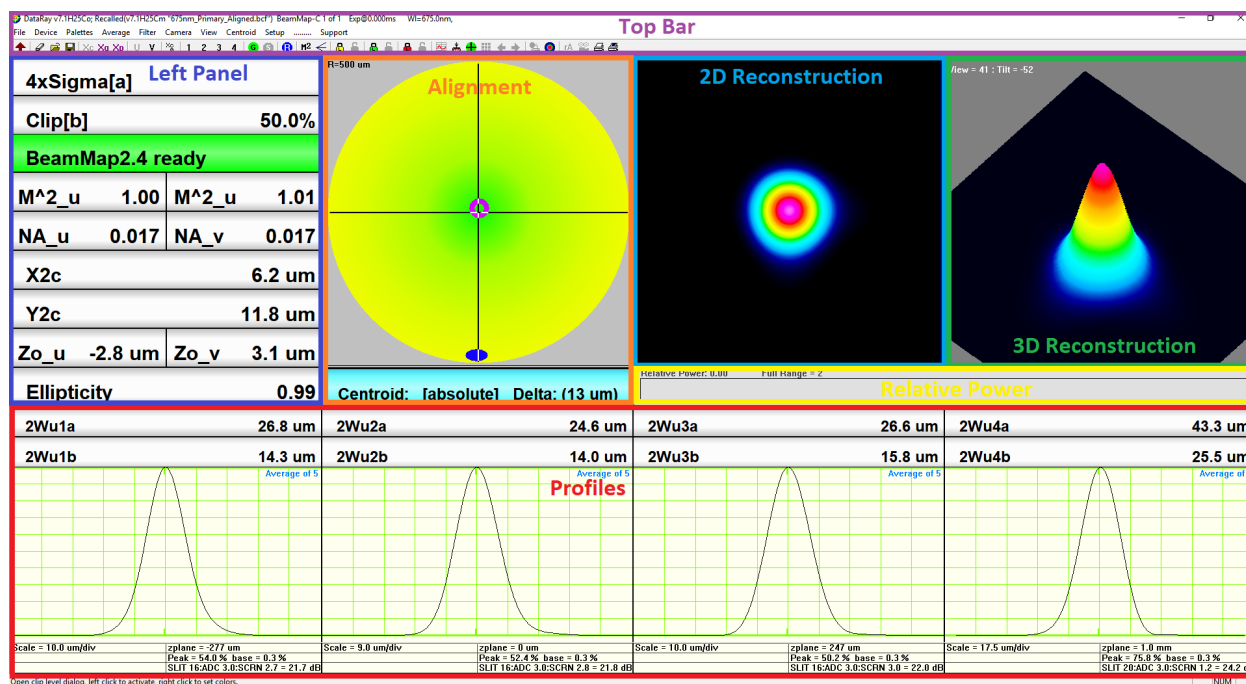

Fig. 3.2: BeamMap2 Software Panels
- The elliptical marker in the alignment panel tracks the focus position of the beam. This marker will move left/right to indicate whether the beam waist is positioned before/after the z=0 plane. The beam should be adjusted in Z in order to center this elliptical marker as shown in Figure 3.2. At this position, the beam waist will lie on the Z=0 slit plane.